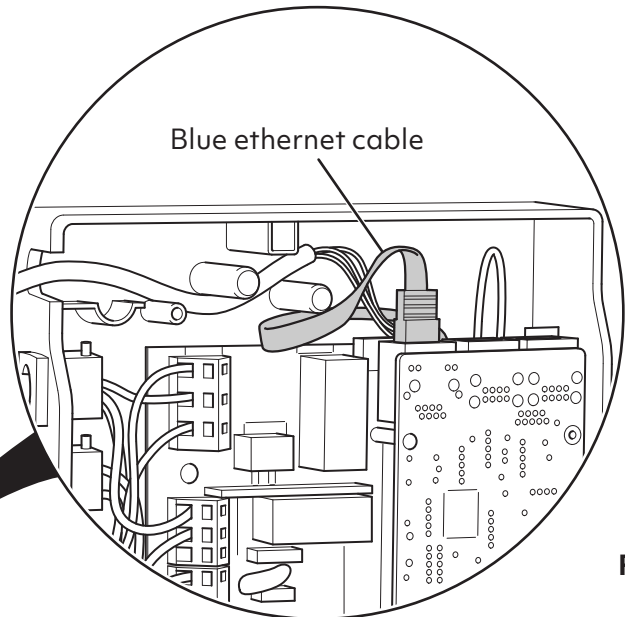

Fig. 24
1. Unscrew and remove the cylinder controller's cover and then disconnect the blue ethernet cable (Fig. 24).